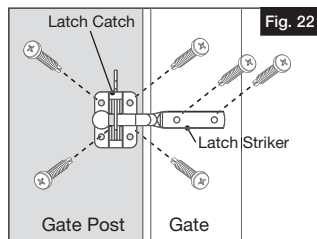

Fig. 22
- Measure and install latch with six (6) 1" Phillips screws as provided with the latch. The latch striker is installed on the gate first and then install the latch catch onto the gate post (Fig. 22).